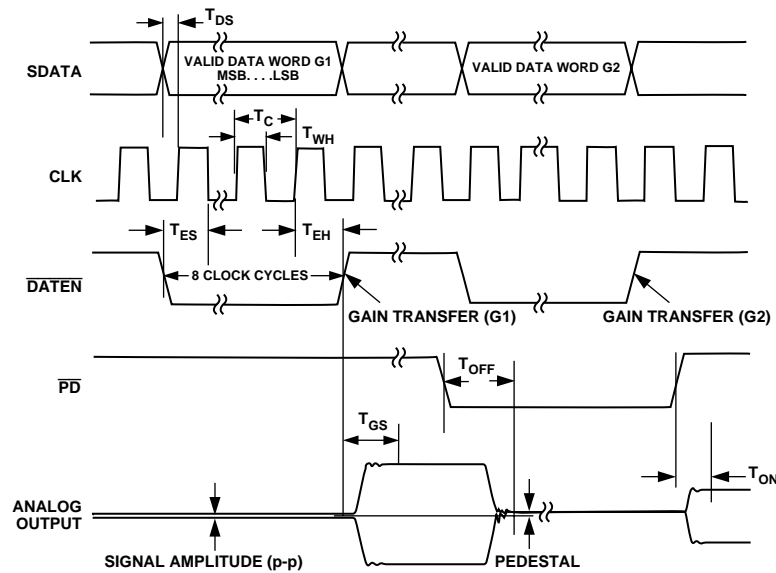

Figure 43. Serial Interface Timing
To update the AD8320 gain, the following digital load sequence is required. The attenuation setting is determined by the 8-bit word in the data latch. This 8-bit word is serially loaded (MSB first) into the shift register at each rising edge of the clock. See Figure 43. During this data load time (T), $\overline{\text{DATEN}}$ is low and the data latch is latched holding the previous (T − 1) data word keeping the attenuation level unchanged. After eight clock cycles the new data word is fully loaded and $\overline{\text{DATEN}}$ is switched high. This enables the data latch (becomes transparent) and the loaded register data is passed to the attenuator with the updated gain value. Also at this $\overline{\text{DATEN}}$ transition, the internal clock is disabled, thus inhibiting new serial input data.
The timing diagram for AD8320's serial interface is shown in Figure 43.